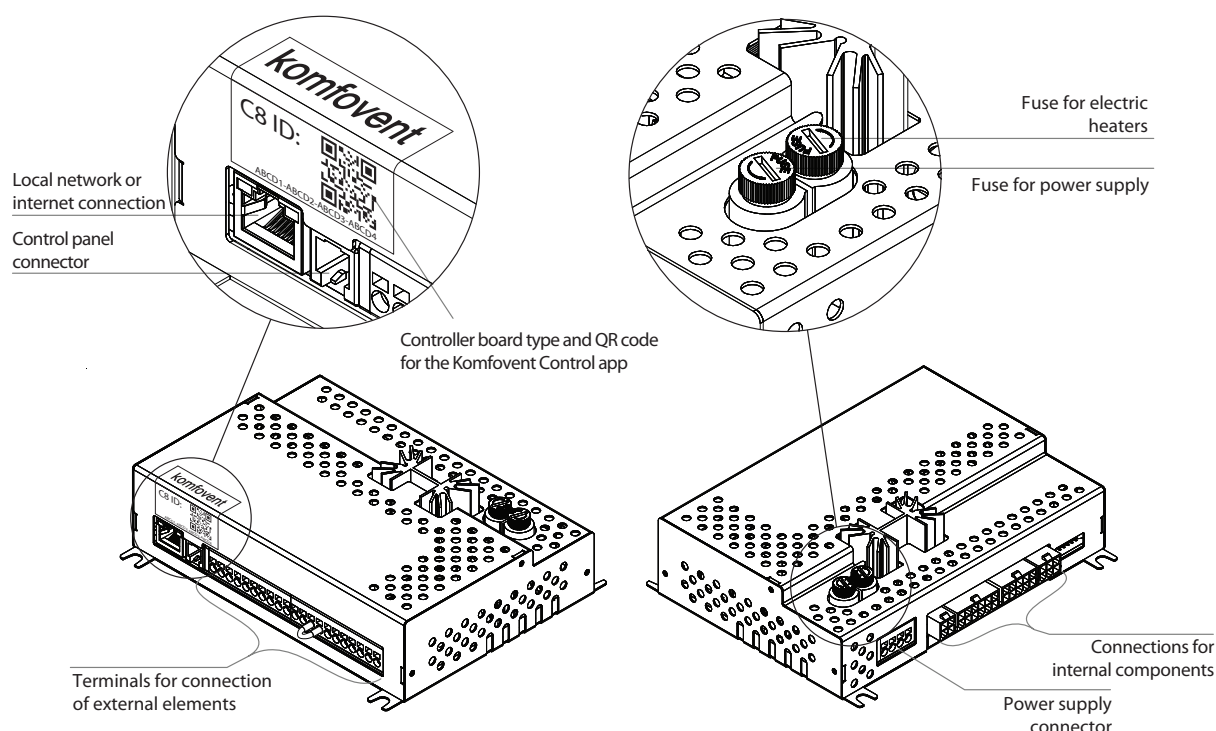

Fig. 10. C8 controller main board
- The terminal numbering shown here only applies for C8 controller board. Before connecting the external elements, check the board type on the sticker in the front of the controller (see Fig. 10).
It is advisable to run the control panel cable in such a way that it does not go near the power supply wires or high voltage electrical equipment (electrical inlet cabinets, electric water heating boiler, air conditioning unit, etc.). The cable can be passed through the holes in the back or bottom of the control panel (follow the installation instructions supplied with the control panel). The wire to C8 controller board is connected to a dedicated slot (RJ9 connector; see Fig. 10) or to the terminals for external connections.
The unit can be controlled not only by the control panel, but also by computer or smart phone. In such cases, the air handling unit must be connected to an local computer network or to the Internet. The unit is controlled by a computer using a web browser, or a smartphone with a Komfovent Control app. The air handling unit is connected to the computer network with a CAT5 type cable (RJ45 connector; see Fig. 10). The total cable length between the unit and the network router must not exceed 100 m.
- The easiest way to manage your unit over the internet is to use a smartphone with the Komfovent Control app. Launch the app on your phone (the phone must have Internet access). When you connect for the first time, the app will ask you to scan the QR code at the front of the controller board (see Fig. 10). When you scan the code, the app will automatically establish the connection to the unit (for more information on the Komfovent Control app, see "Domekt User Guide").